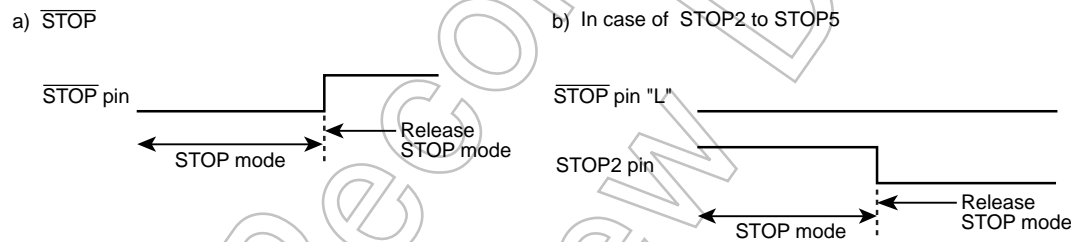

Figure 13-3 Priority of $\overline{\text{STOP}}$ pin and STOP2 to STOP5 pins
- Note 6: When the STOP mode is released by STOP2 to STOP5 pins, the level of $\overline{\text{STOP}}$ pin should hold "L" level (Figure 13-3).